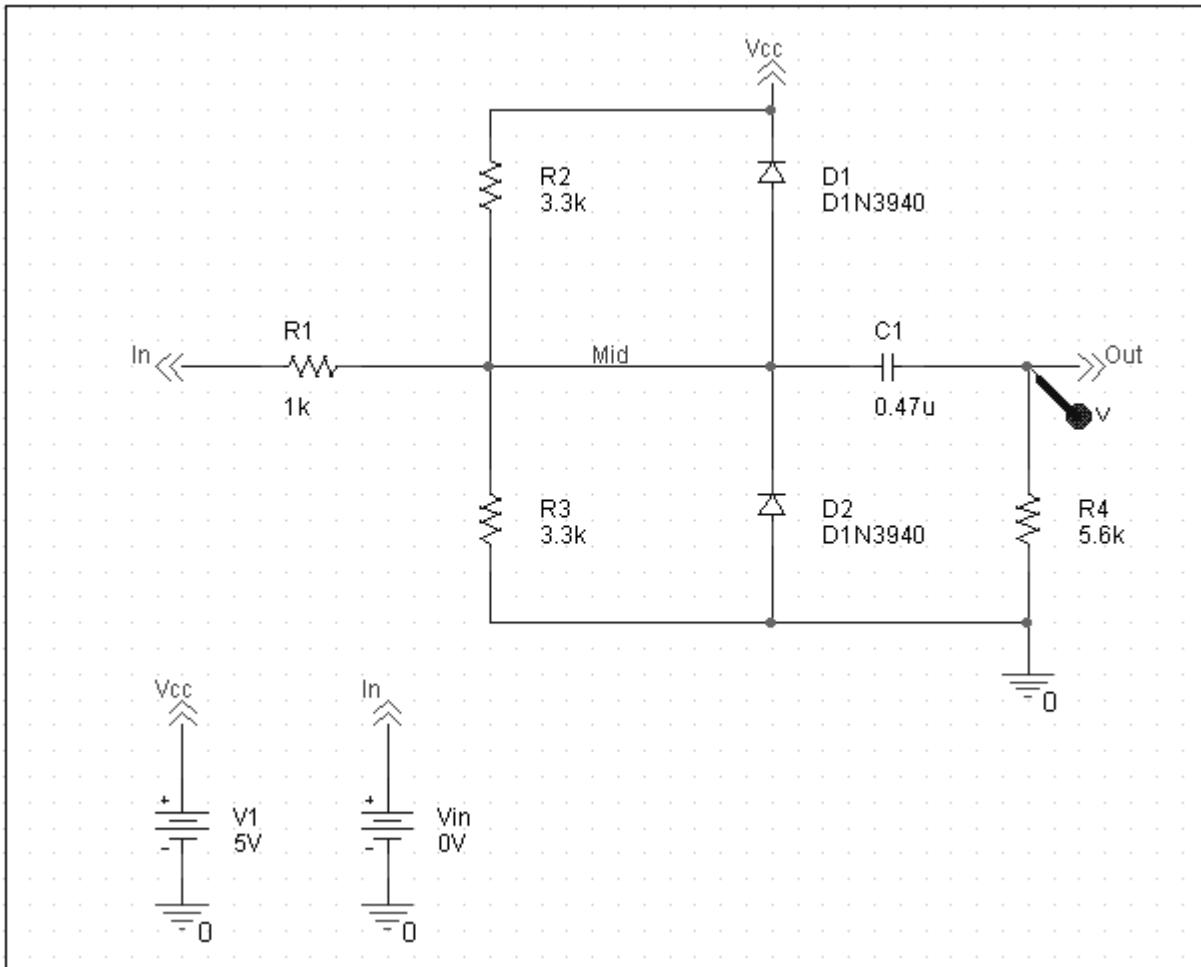

Figure 2-10 Clipper circuit with voltage marker on net Out.
2. Click to place a marker on net Out, as shown in Figure 2-10.